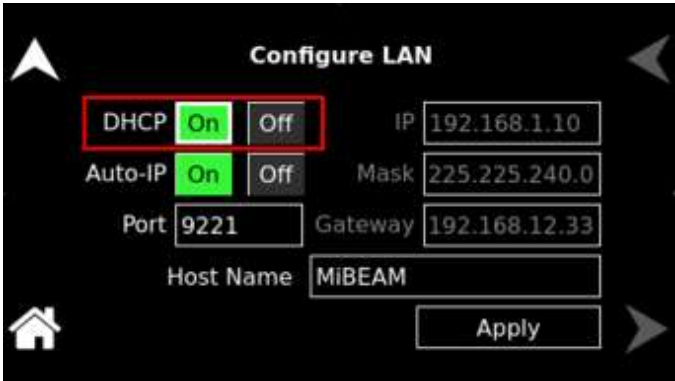

Figure 12-42. LAN Screen – DHCP
- **DHCP:** Selects whether DHCP is enabled or disabled. Refer to Figure 12-42.